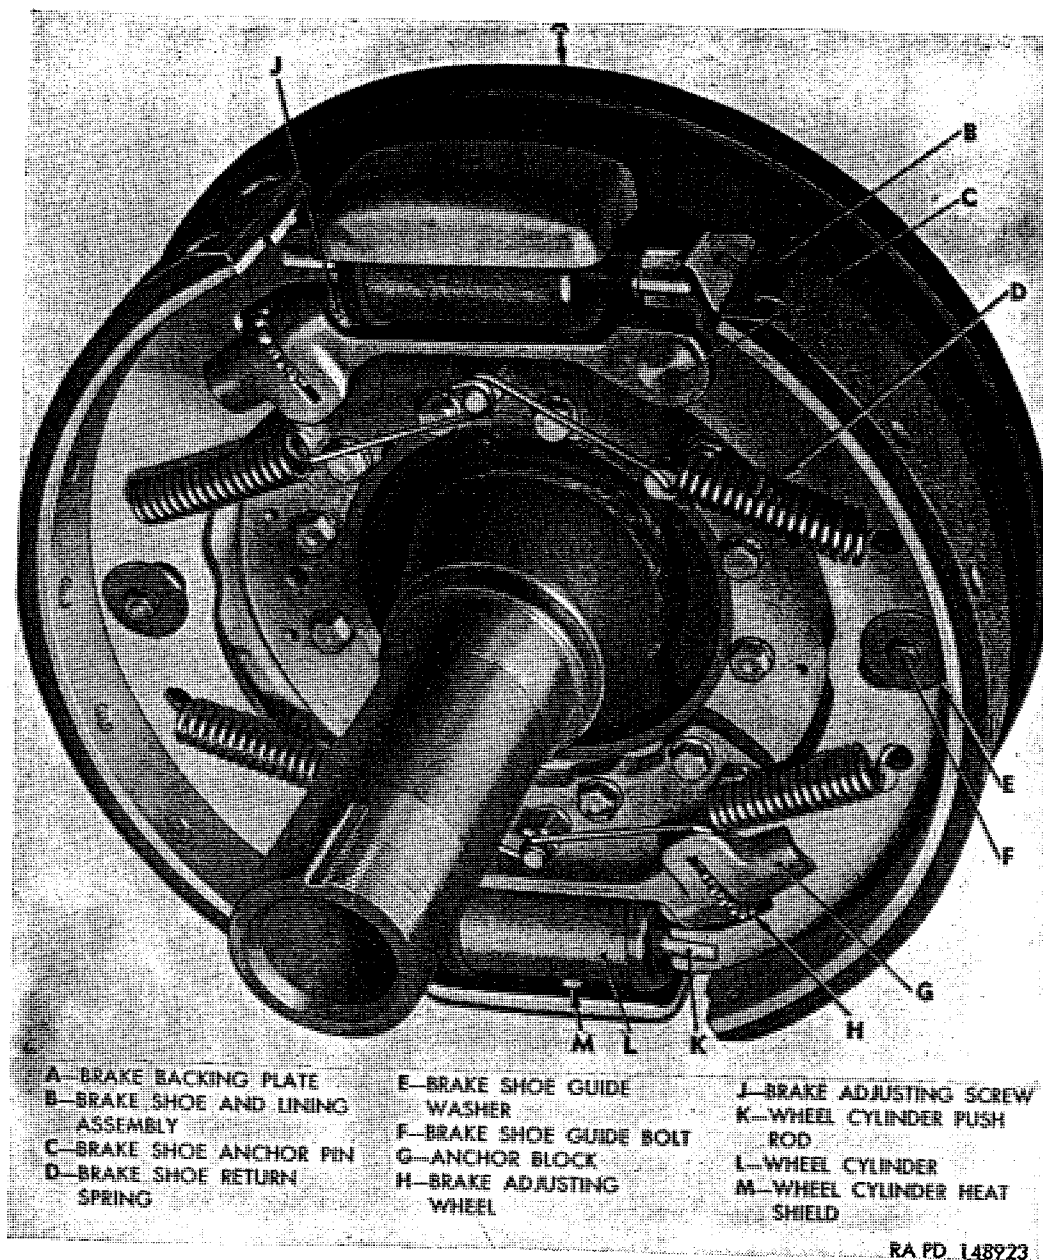

Figure 246. Brake shoes and wheel cylinders installed (rear shown).
Note. The key letters noted in parentheses are in figure 246, except where otherwise indicated.
a. General. Two double-end wheel cylinders (L, fig. 246) are mounted on each backing plate between ends of brake shoes. Bleeder valves and hydraulic inlet openings extend through backing plate to inner side. Each wheel cylinder is attached to backing plate by two cap screws and lockwashers. Push rods transmit movement of wheel cylinder pistons to brake shoes. In each wheel cylinder, the piston which operates the toe end of the brake shoe has a longer stroke than the piston in the other end to compensate for the increased piston travel made necessary when brakes are adjusted to compensate for normal lining wear. Rubber boot at each end of cylinder keeps out water and dirt, and a heat shield at each cylinder deflects heat, created during brake application, away from cylinder.
- (1) Remove brake shoes (par. 239b).
- (2) At inner side of backing plate, remove bolt attaching hydraulic connecting line fitting to wheel cylinder.
- (3) Remove two cap screws and lockwashers attaching wheel cylinder to backing plate. Remove wheel cylinder and heat shield from backing plate; then remove heat shield from wheel cylinder.